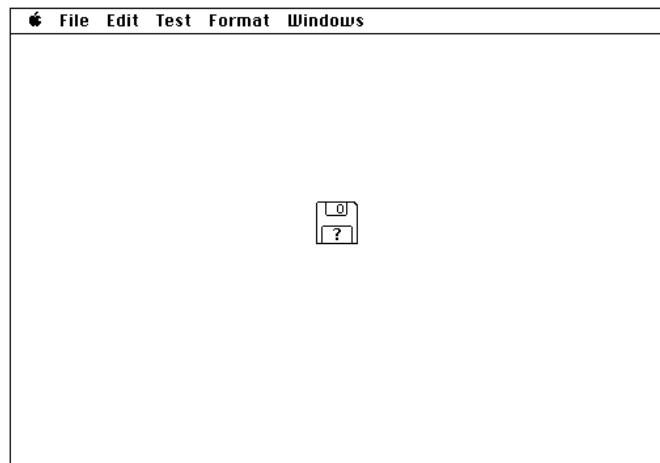

Figure 1
- 4.0 Return to the control room and turn the hard disk computer drive (lower unit) power switch on, wait 15 seconds, then turn the Macintosh Computer power switch on. The computer will beep and an icon representing a floppy disk will appear on the screen. See Figure 1.